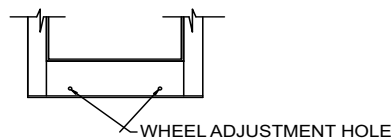

Figure 20
- To adjust rollers on panels use a Phillips head screwdriver to turn adjustment screws located on the bottom outside of panel. Screw guns can strip the adjustment and therefore are not recommended. (See Figure 20)